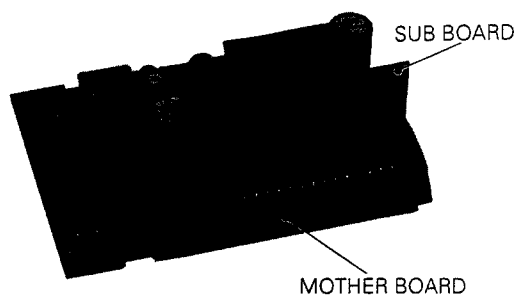

Fig. 1-7
2. Remove a screw ⑥ from the CHASSIS ④, and then remove the MOTHER board. The SUB board is connected with the MOTHER board show in Fig. 1-7.